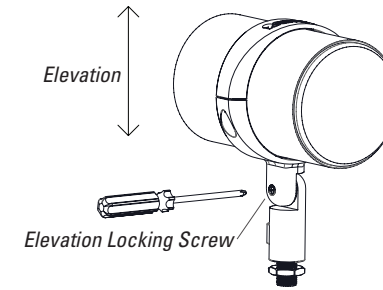

Figure 4
5. Use a Phillips screwdriver (not supplied) to loosen the elevation locking screw (see Figure 4), point the speaker to the desired elevation angle and hand tighten the locking screw. **DO NOT OVER-TIGHTEN.**